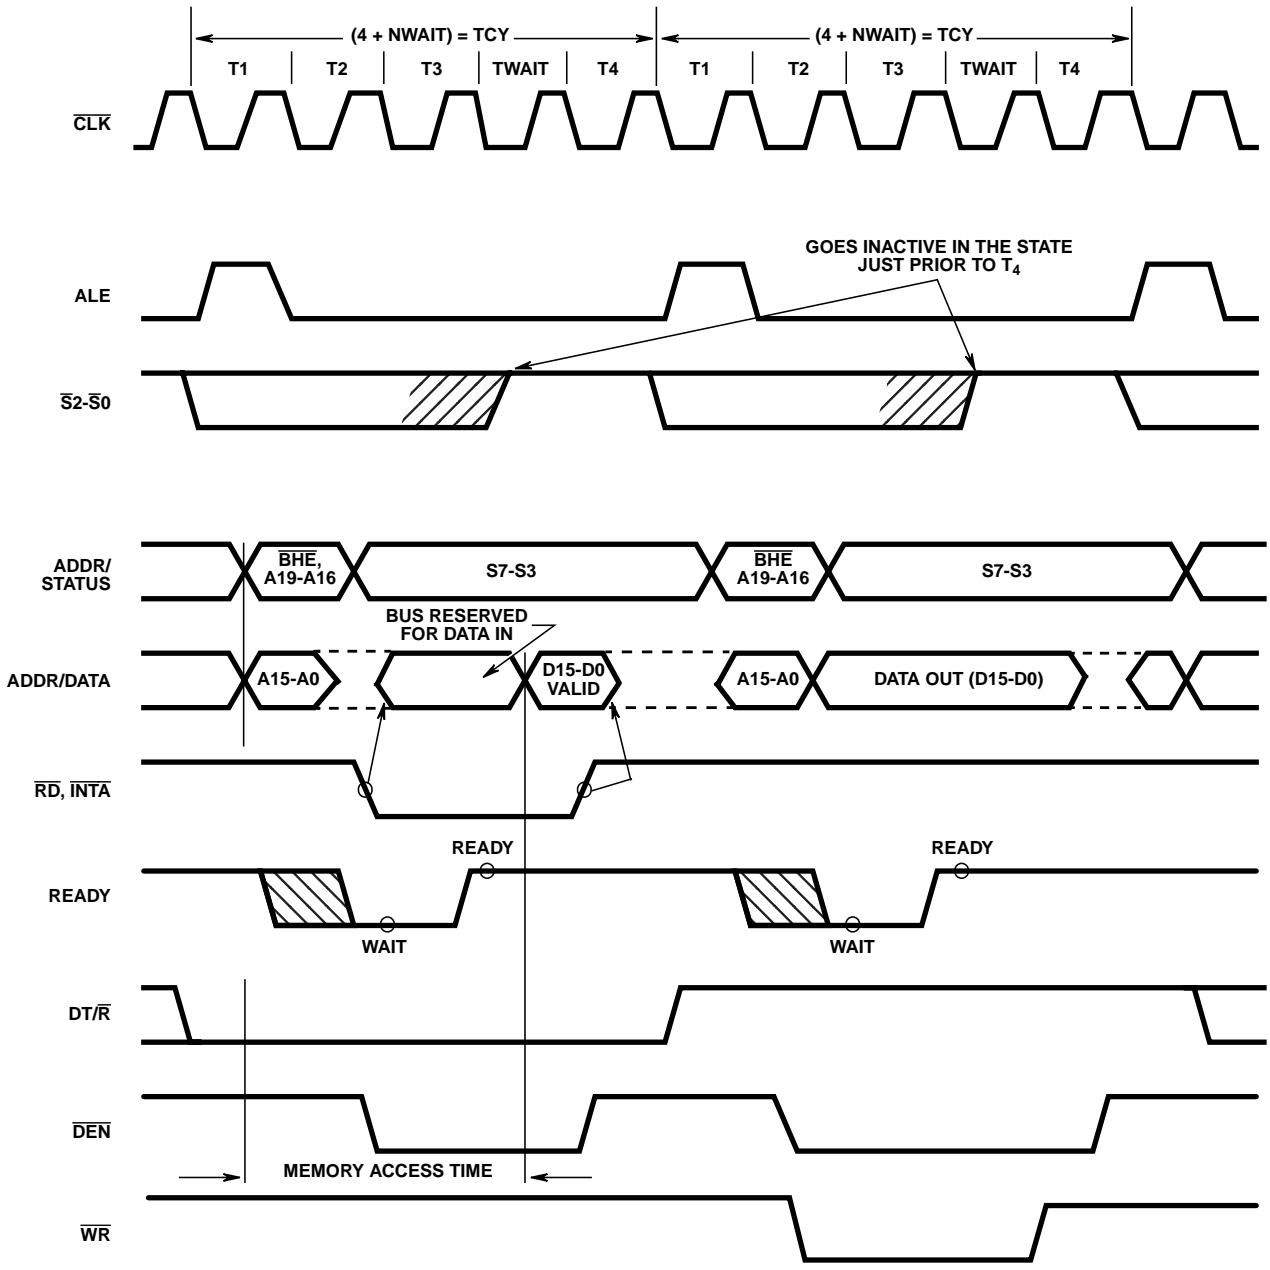
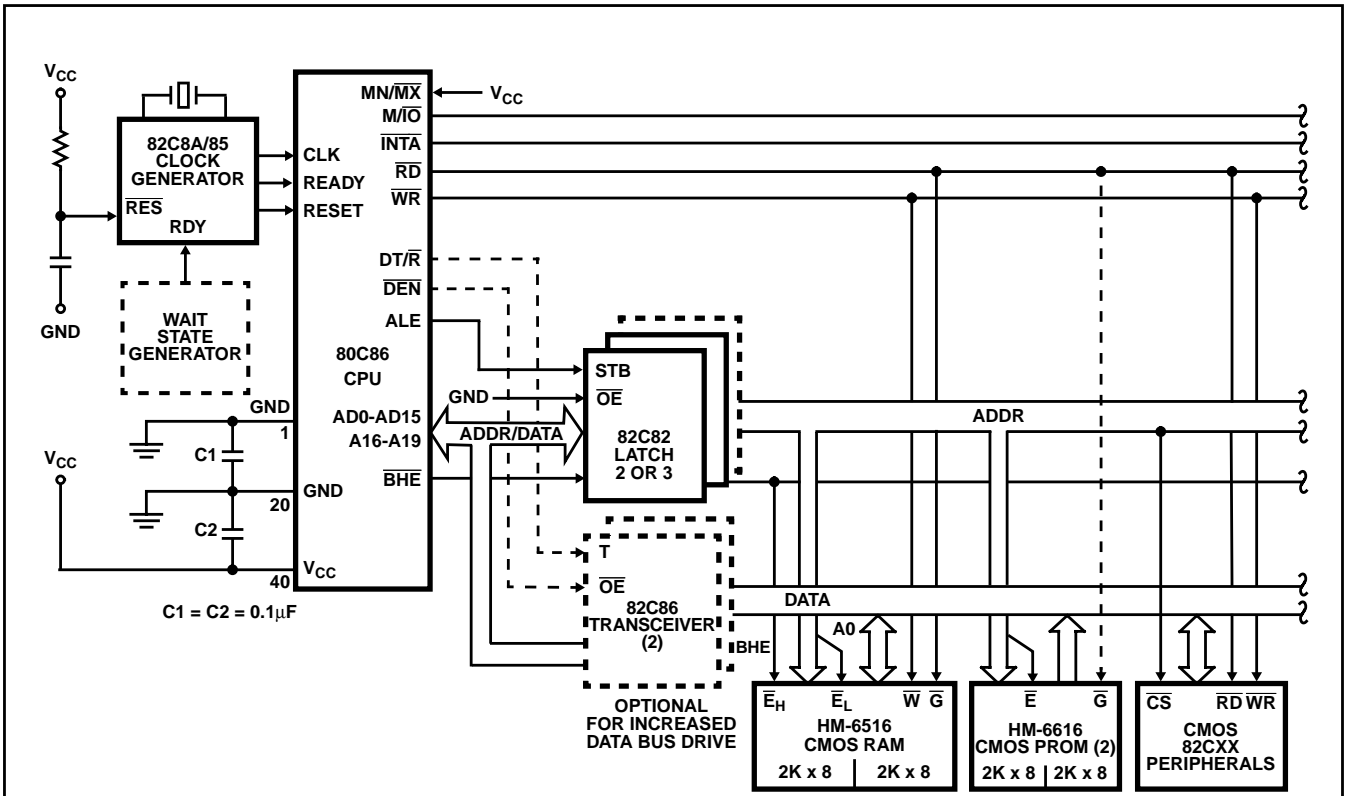

FIGURE 3. BASIC SYSTEM TIMING
FIGURE 6A. MINIMUM MODE 80C86 TYPICAL CONFIGURATION
The demultiplexed mode requires two 82C82 latches (for 64K addressability) or three 82C82 latches (for a full megabyte of addressing). An 82C86 or 82C87 transceiver can also be used if data bus buffering is required. (See Figure 6A.) The
Each processor bus cycle consists of at least four CLK cycles. These are referred to as T1, T2, T3 and T4 (see Figure 3). The address is emitted from the processor during T1 and data transfer occurs on the bus during T3 and T4. T2 is used primarily for changing the direction of the bus during read operations. In the event that a "NOT READY" indication is given by the addressed device, "Wait" states (TW) are inserted between T3 and T4. Each inserted wait state is the same duration as a CLK cycle. Periods can occur between 80C86 driven bus cycles. These are referred to as idle" states (Ti) or inactive CLK cycles. The processor uses these cycles for internal housekeeping and processing.
Typical system configurations for the processor operating in minimum mode and in maximum mode are shown in Figures 6A and 6B, respectively. In minimum mode, the MN/MX pin is strapped to VCC and the processor emits bus control signals (e.g.  $\overline{RD}$ ,  $\overline{WR}$ , etc.) directly. In maximum mode, the MN/MX pin is strapped to GND and the processor emits coded status information which the 82C88 bus controller uses to generate MULTIBUS compatible bus control signals. Figure 3 shows the signal timing relationships.